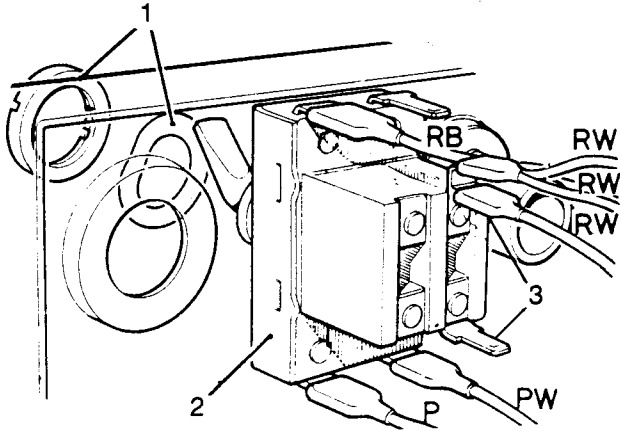

Fig O5.17
- (3) Refer to Fig O5.17. Unscrew the lock ring (1) and remove it and the wave washer (1) from the switch knob.
- (4) Disconnect the leads from the back of the switch.
- (5) Withdraw the switch (2).